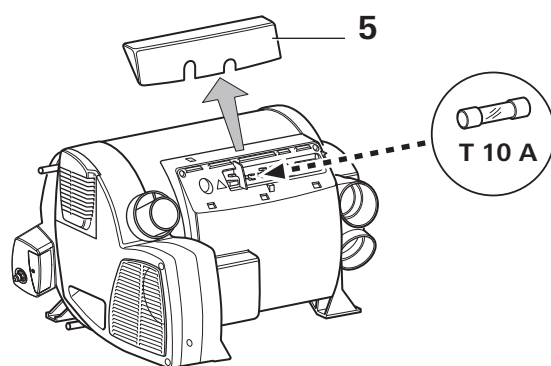

Fig. 8
- While detaching or reattaching the connection cover (Fig. 8 – 5), take care to neither dislodge nor pinch the connector cables.